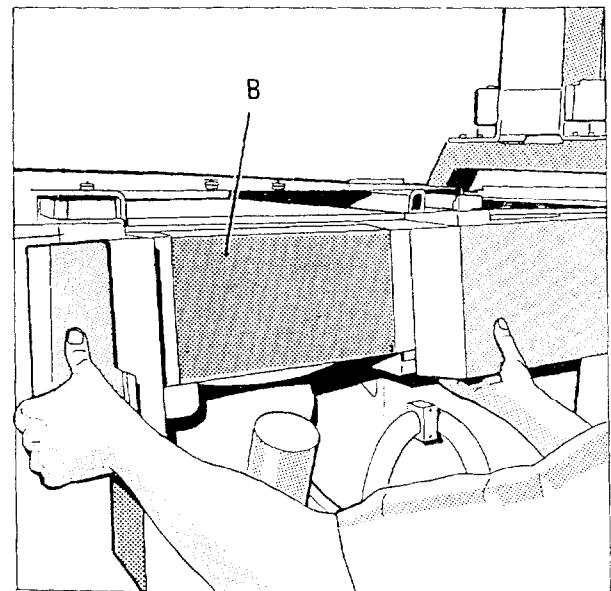

Fig. 4
- Remove the side panel (B/Fig.4).